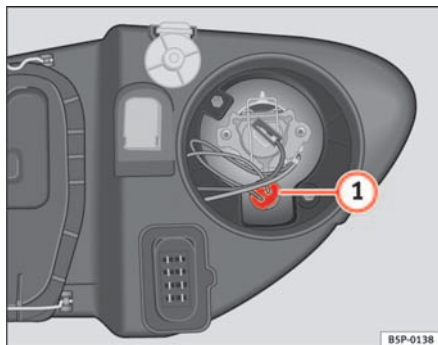

Fig. 161 Side lights
- Extract the lamp holder ⇒ fig. 161 **1** outwards.